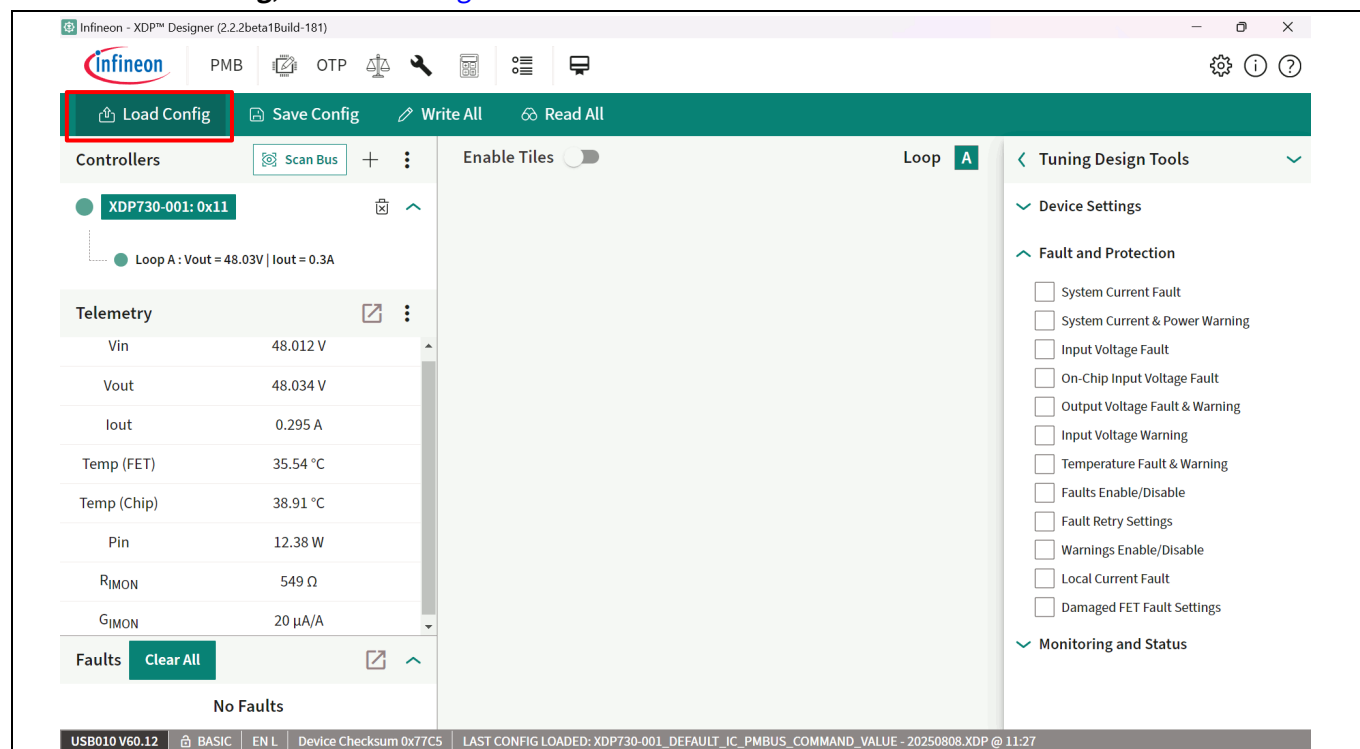

Figure 22 Select Load Config option
1. Click **Load Config**, as shown in Figure 22